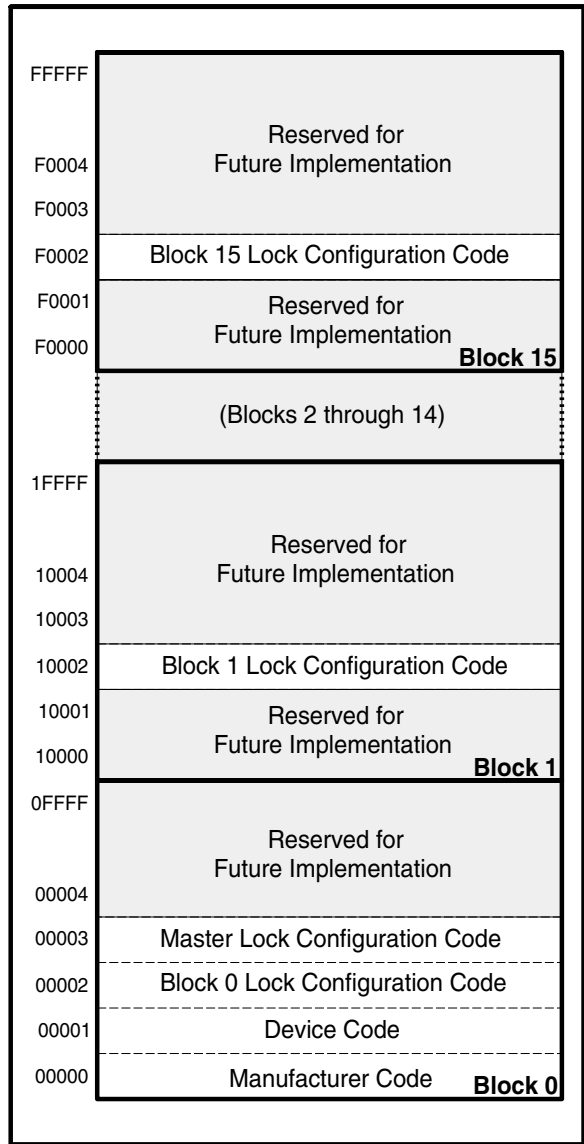

Figure 4. Device Identifier Code Memory Map
The read identifier codes operation outputs the manufacturer code, device code, block lock configuration codes for each block, and the master lock configuration code (see Figure 4). Using the manufacturer and device codes, the system CPU can automatically match the device with its proper algorithms. The block lock and master lock configuration codes identify locked and unlocked blocks and master lock-bit setting.
| Read Identifier Codes | 8 | V _{IH} or V _{HH} | V _{IL} | V _{IL} | V _{IH} | See Figure 4 | X | Note 5 | V _{OH} |
IA=Identifier Code Address: see Figure 4.
The identifier code operation is initiated by writing the Read Identifier Codes command. Following the command write, read cycles from addresses shown in Figure 4 retrieve the manufacturer, device, block lock configuration and master lock configuration codes (see Table 5 for identifier code values). To terminate the operation, write another valid command. Like the Read Array command, the Read Identifier Codes command functions independently of the V_{PP} voltage and RP# can be V_{IH} or V_{HH} . Following the Read Identifier Codes command, the following information can be read:
1. X selects the specific block lock configuration code to be read. See Figure 4 for the device identifier code memory map.